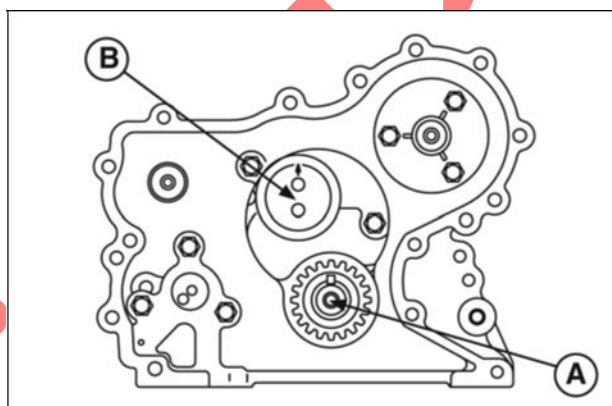

Figure 15
3. Note position, length, and number of screws (Figure 15).
- M6 x 1.1 in. (M6 x 28 mm): 4 (A)
- M6 x 0.7 in. (M6 x 18 mm): 3 (B)
- M6 x 0.6 in. (M6 x 16 mm): 1 (C)
5. Make sure crankshaft key is at the 12 o'clock position (A, Figure 15).